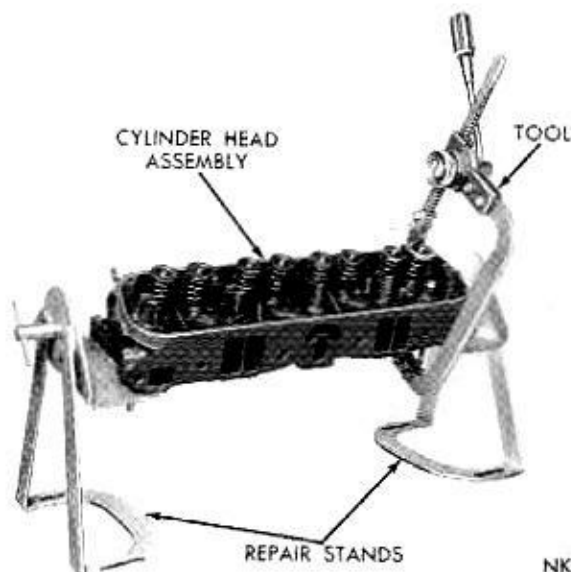

Fig. 7—Compressing Valve Spring
(1) With cylinder head removed, compress valve springs using Tool C-3422A, as shown in Fig. 7.
(2) Remove valve retaining locks, valve spring retainers, valve stem cup seals and valve springs.
(3) Before removing valves, remove any burrs from valve stem lock grooves to prevent damage to the valve guide. Identify valves to insure installation in original location.